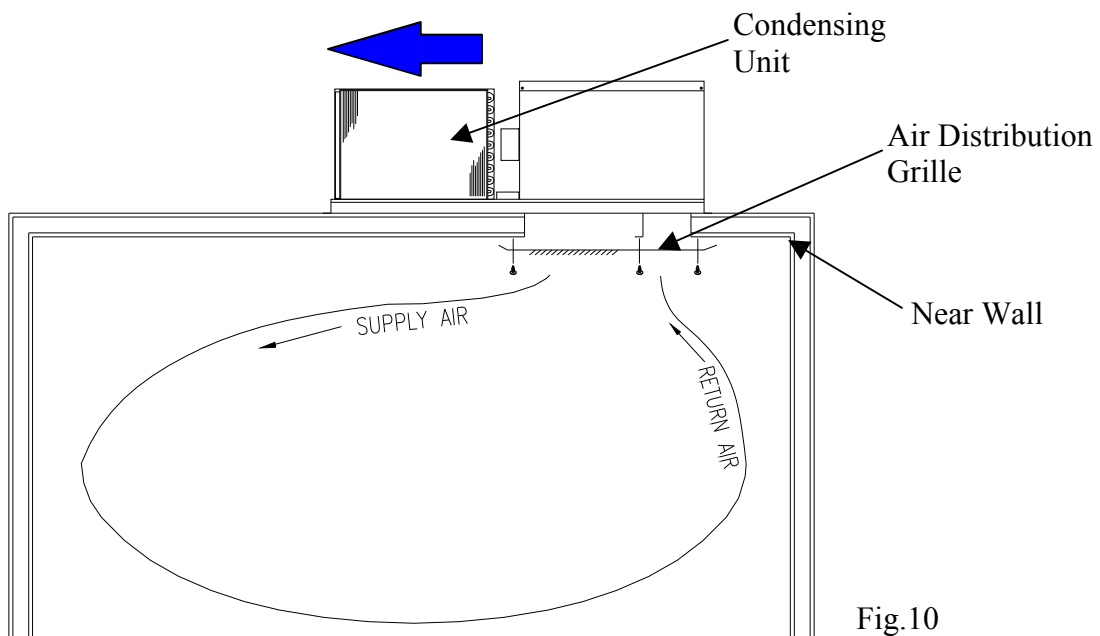

Fig.10
1. When positioning the unit on the precut opening be sure the Condensing Unit is facing away from the near wall.(Fig.10)